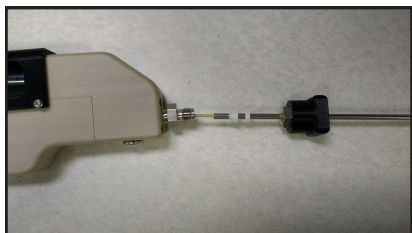

Figure 11: Reassembling inline diluter by attaching the black nut and sample probe assembly.
Step 6: Reattach black nut and sample probe assembly. Make sure Ferrules are still in place (see Figure 11). Tighten black nut